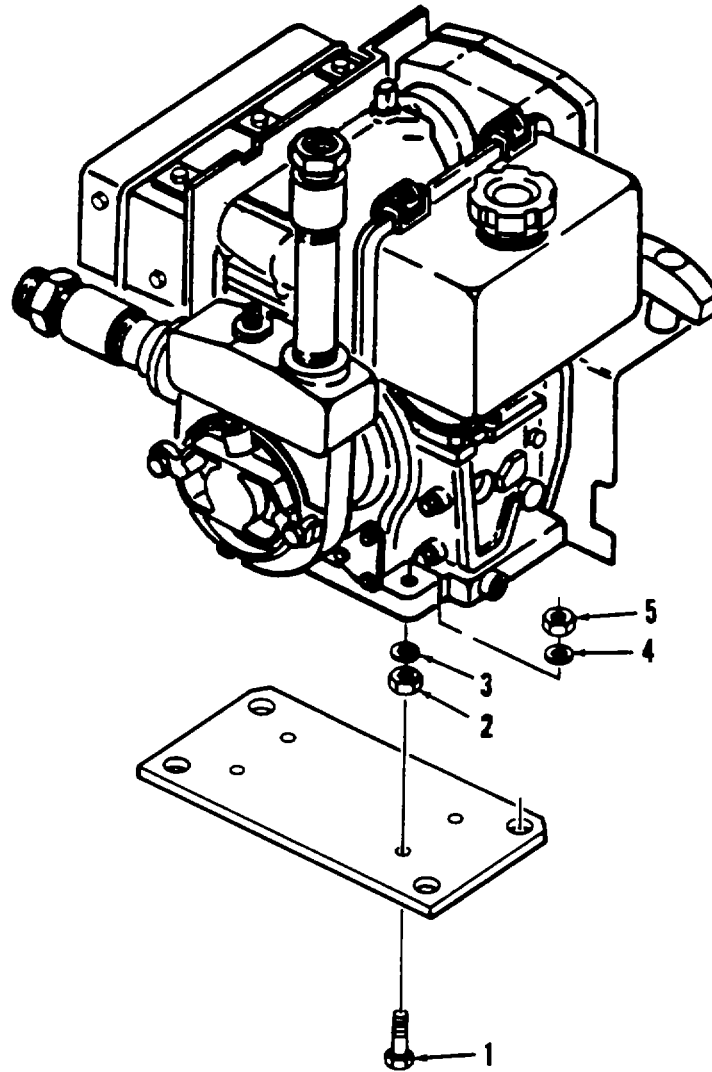

Figure 5-1. Mounting Plate Repair and Replacement
a. Removal. (Refer to Figure 5-1).
- (1) Remove four screws (1), four nuts (2), four flat washers (3), four flat washers (4), and four nuts (5).
- (2) Remove mounting plate (6) from engine (7).